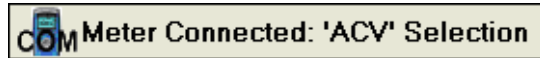

Figure 4 Meter connection success
- 6 After all the settings are configured, click **Connect Meter**. If the configured settings matched with the meter settings, the software will return a message and status will change to “**Meter Connected**” as shown in Figure 4.